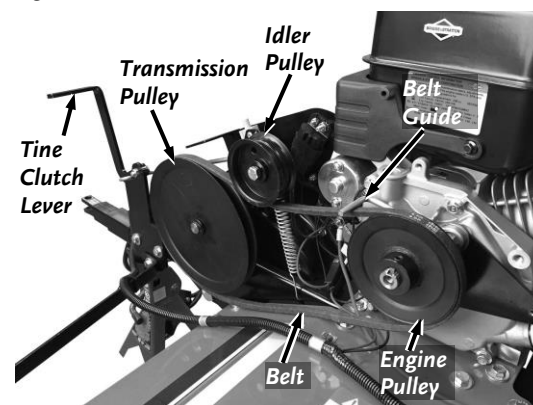

Figure 25
- Do not move or remove the belt guide (**Figure 25**). If you accidentally alter the position of the belt guide, return it to the correct setting of 6-1/4" vertical inches from the fender to the bottom of guide.
3. Remove the worn Belt from the Engine Pulley and Transmission Pulley (**Figure 25**).